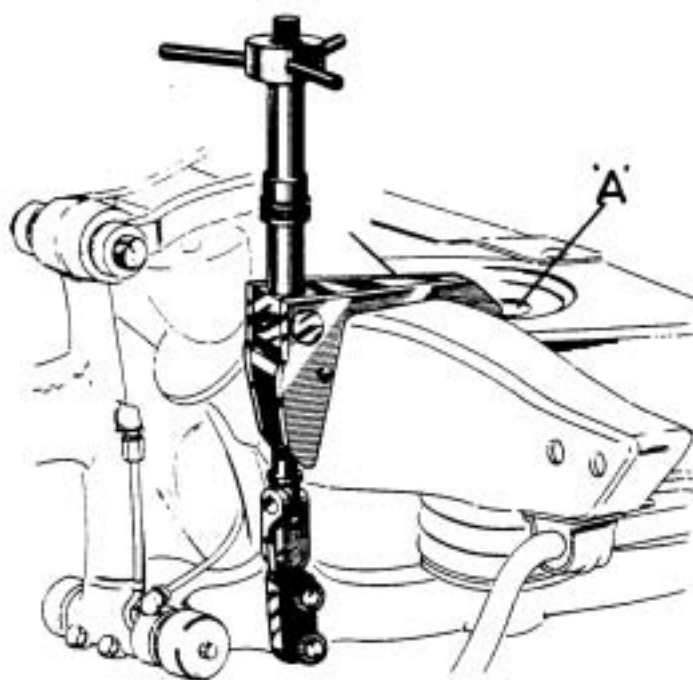

FIG. 2. SPRING COMPRESSING TOOL IN POSITION.
- (iv) Place the spring retaining bolt, Tool No. 3752/T1002 downwards through the hole ('A' Fig. 2) provided in the top of the front 'pan' and leave it in this position.
- (v) Place the lower end of the spring compressing Tool No. 3752/T1008 on to the two studs of the front stabiliser bracket and then place the claws of the tool so that they fit snugly under the lip (edge) of the hole in the top of the front 'pan' as shown in Fig. 2. Tighten up the two knurled nuts of the tool to secure.